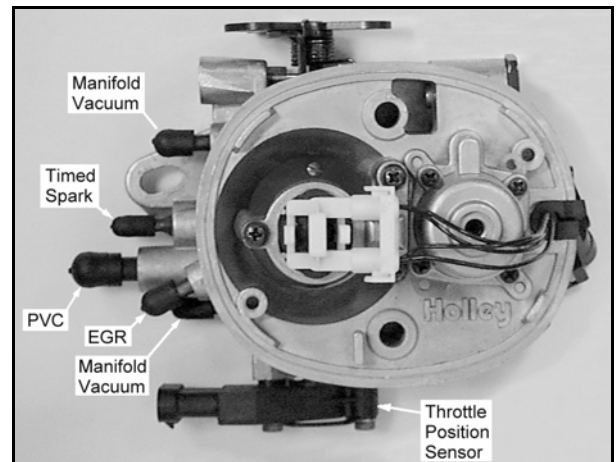

Figure 4
- 2 - Connect all of the vacuum lines that were labeled during the disassembly of the stock fuel system to the throttle body as shown in Figure 4.